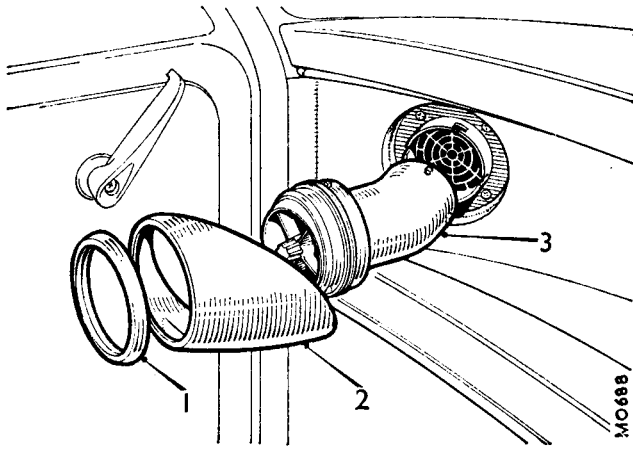

Fig. Rb.2
1. Unscrew the louver moulding retaining ring and remove the moulding (Fig. Rb.2). Turn the ventilation louver anti-clockwise and withdraw it.